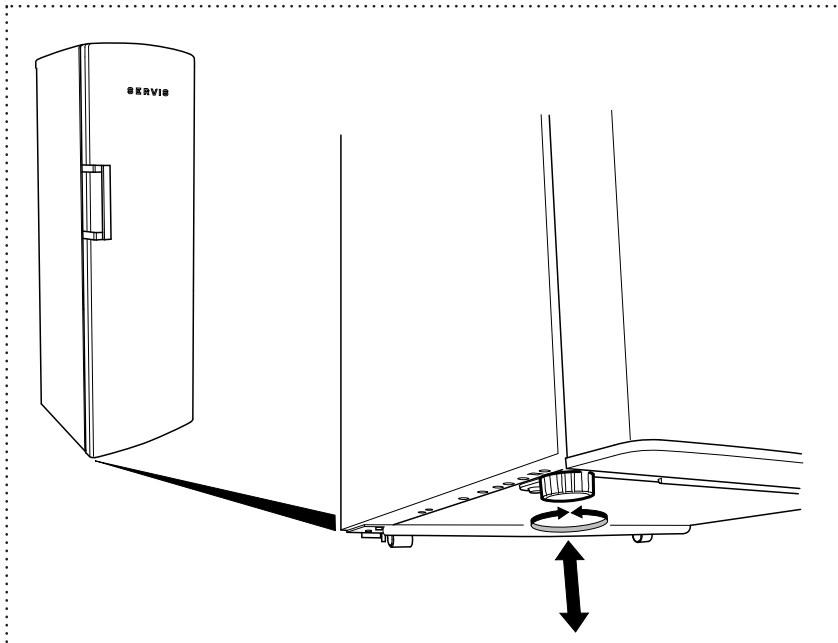

Figure 4
- 1 To increase the height of the Freezer, turn the feet clockwise (Figure 4).
- 2 To decrease the height of the Freezer, turn the feet anti-clockwise (Figure 4).